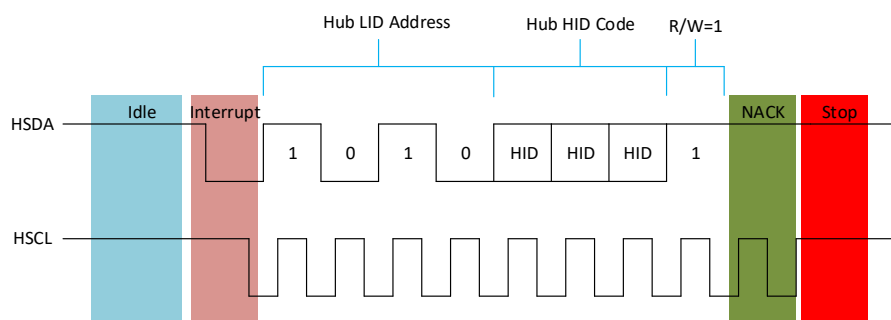

Figure 13 — SPD5 Hub Interrupt; Host NACK Followed by STOP
- The Host sends NACK on the 9th bit as shown in Figure 13 followed by a STOP command. In this case, the SPD5 Hub device does not transmit the IBI payload and waits for the next opportunity to request an interrupt. At this point, though Host sent an NACK, it does have a knowledge of which SPD5 Hub device sent the IBI request. The SPD5 Hub retains the IBI status flag Table 130, “MR48” [7] = ‘1’ and Pending Interrupt Bits [3:0] = ‘0001’.